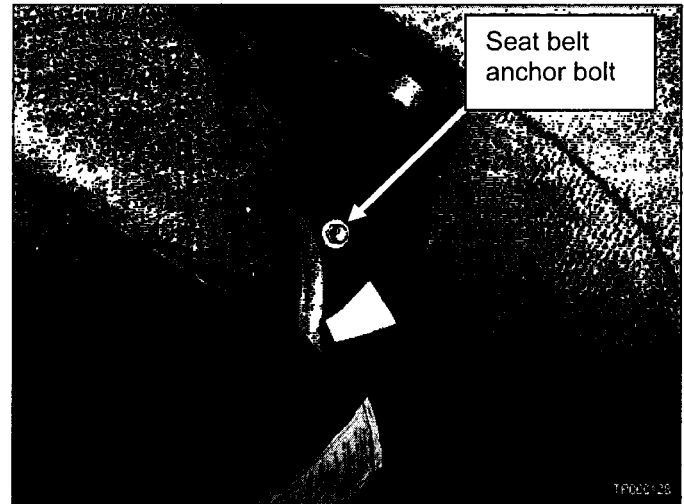

Figure 4
3. Remove the seat belt anchor bolt (see Figure 4).